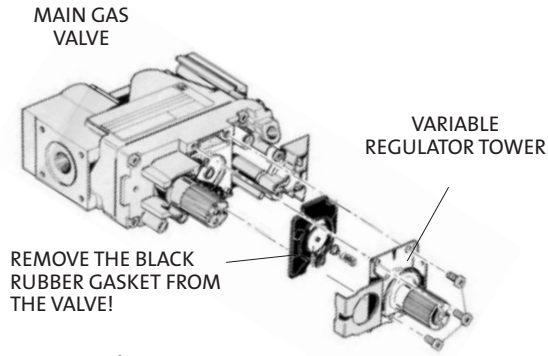

Figure 19. Regulator parts.
14. Replace the variable regulator. Using a Torx T-20 screwdriver, remove the three specialty screws from the HI/LO regulator on the front of the valve. Note: To help identify which screws to remove, refer to the new regulator in the kit. See Figure 19.